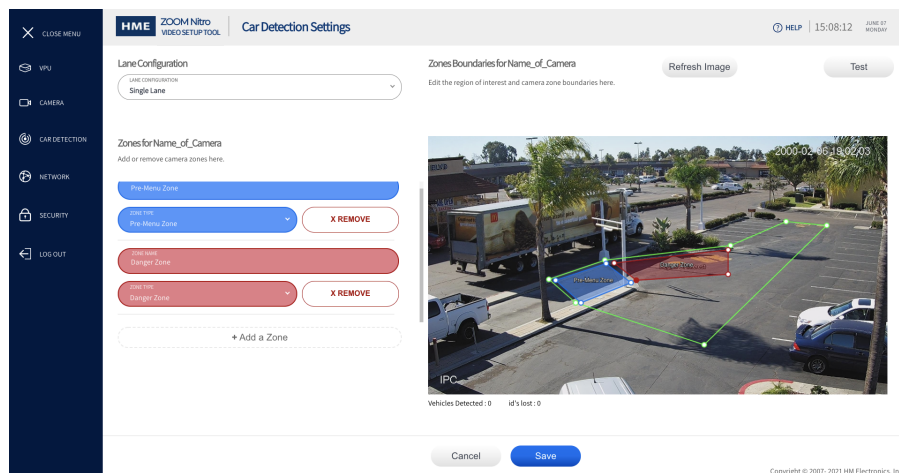

Fig. 6.5
6. Finally click + Add a Zone button again, the Danger Zone appears with a new bounding box (red) in the image (the box will be yellow if it overlaps another zone). Adjust the size and shape of this box to define this zone and click Save when you are finished. You should now have three zones in your image, one ROI zone (green boundary line), one Pre-Menu zone (blue area), and one Danger zone (red area), see Fig. 6.5. This completes the Zone Drawing section.